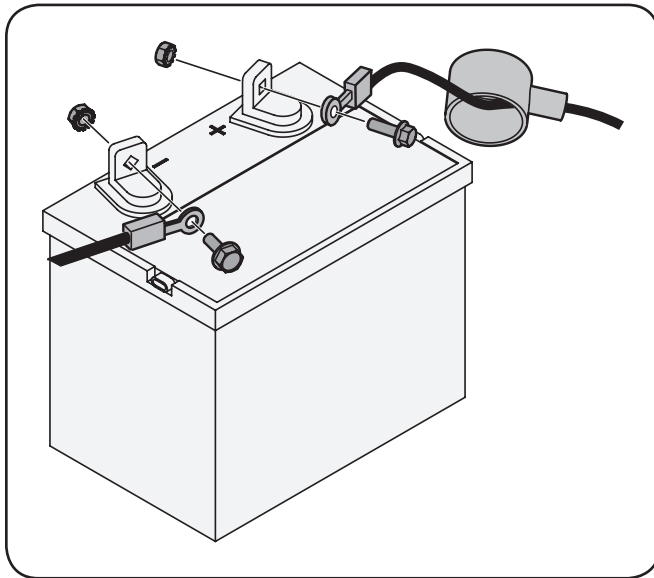

Figure 3-3
1. Remove the plastic cover, if present, from the positive battery terminal and attach the red cable to the positive (+) battery terminal with the bolt and hex nut. See Figure 3-3.
2. Remove the plastic cover, if present, from the negative (-) battery terminal and attach the black cable to the negative (-) battery terminal with the bolt and hex nut. See Figure 3-3.